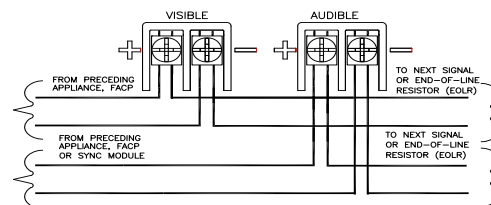

Figure 1 LED Strobe Wiring
3. Connect speaker wires to common and positive of terminal block and select the power tap terminal for 1/8W, 1/4W, 1/2W, 1W or 2W; 25V or 70V as required (see Figures 1, 2, 3,5 and Table 4). Each doubling of rated Watts increases sound output by 3 dBA.